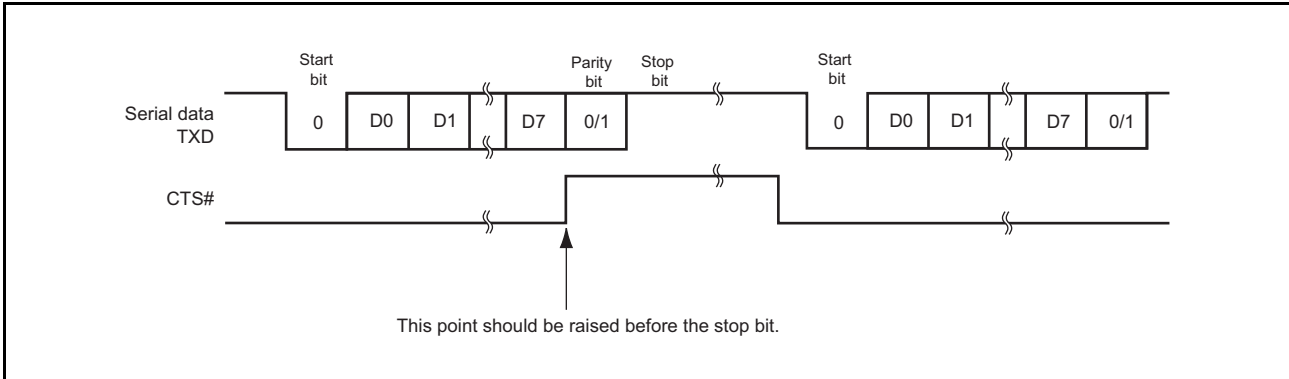

Figure 25.6 Example of Transmit Operation in Asynchronous Mode Using Modem Control Function (CTS#)
- When modem control is enabled, transmission can be stopped/resumed by the input level to the CTS# pin. When a high level is input to the CTS# pin during transmission, the SCIFA enters the mark state (high level) after completion of one-frame data transmission. When a low level is input to the CTS# pin, output of the next data to be transmitted begins with a start bit. Figure 25.6 shows an example of the operation for transmission when using the modem control function.